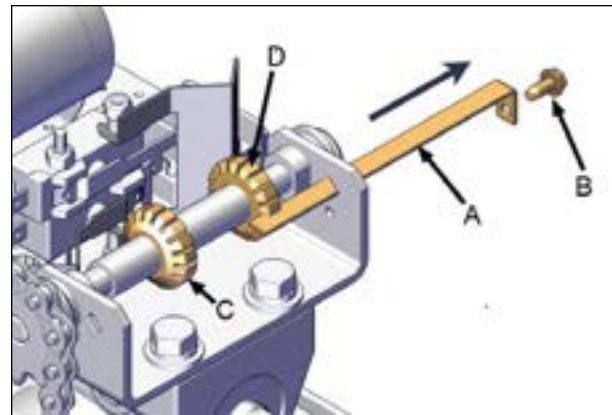

FIGURE 81: CAM PLATE REMOVAL
3. Remove the slotted retaining screw and slide the cam plate out from operator frame see Figure 81. Be careful not to rotate the cam wheels.